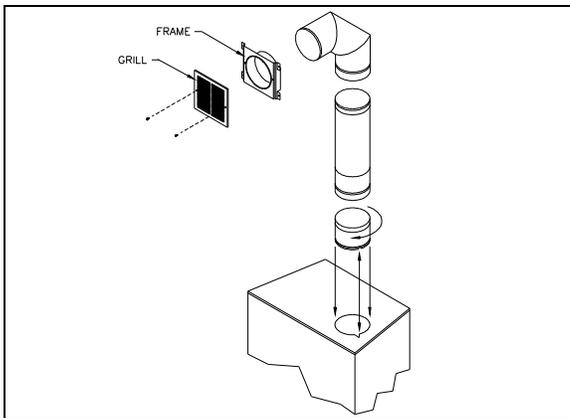

Figure 15
Double hot air outlet including: (See Fig.15)
1. Remove the plates closing up the 8" dia. holes on top of the fireplace. Then, cut the insulation in order to obtain two 8" dia. openings. Fix the adaptors on the fireplace openings by turning clockwise (figure 15).